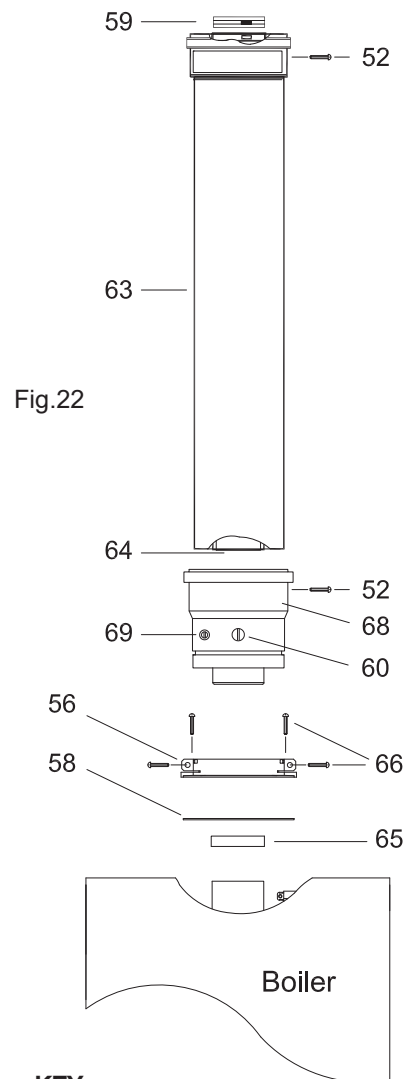

Fig.22
- Position the flue sample point starter (straight flue header which must be fitted) and tighten the two screws on the flue flange (fig. 22 item 66),
**Important: Make sure that the inner 60 mm diameter of the straight flue header is inserted fully into the heat exchanger, and the rubber seal is correctly fitted. (Fig 22 item 65)**
Starting at the appliance end, assemble the extension duct sections, making each inner and outer (flue) joint by inserting the spigot end into the socket end of the next tube, making sure the seal rings are correctly located (fig. 22). Make sure that the entire flue is adequately supported. Use at least one bracket for each extension used.